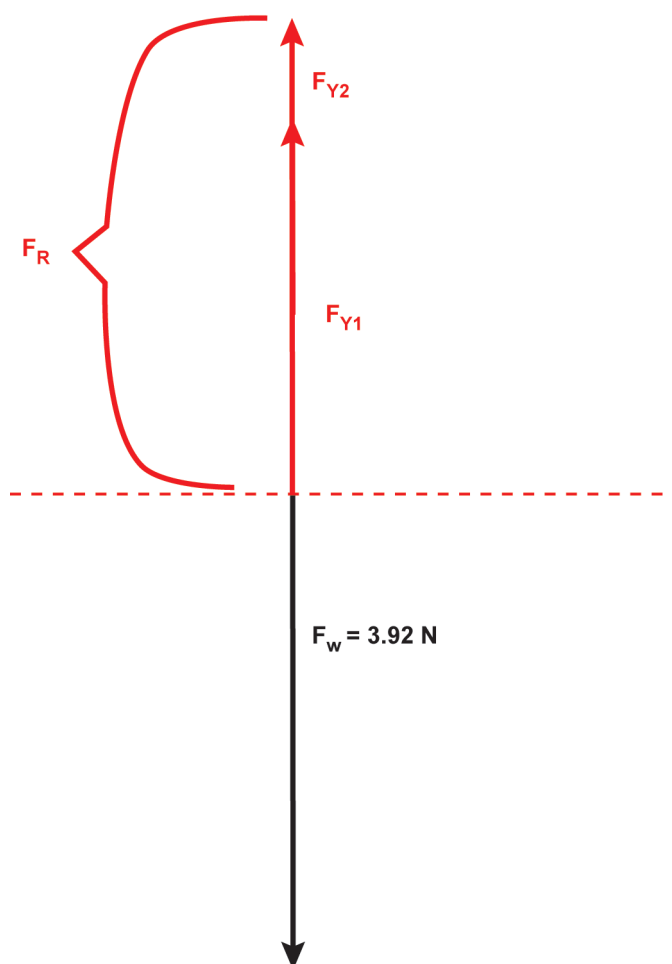

Figure 10
- ❑ 3. Since the vertical components are acting in the same direction, they can be added as shown in Figure 10. The summation can be written as: